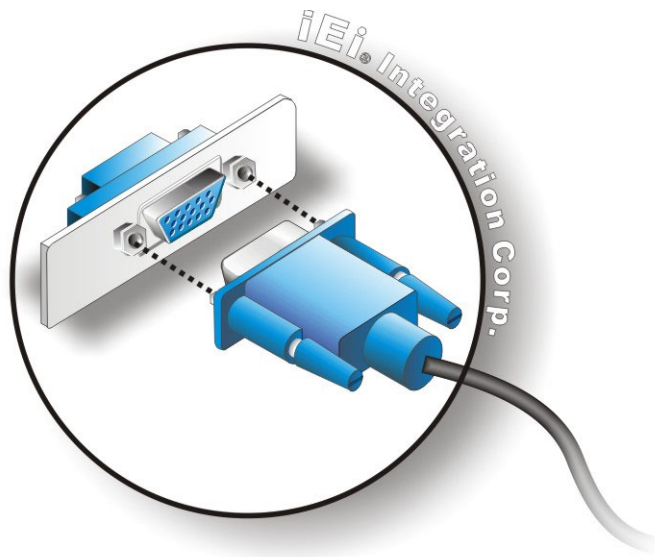

Figure 4-22: VGA Connector
- Step 3:** **Insert the VGA connector.** Once the connectors are properly aligned with the insert the male connector from the VGA screen into the female connector on the NANO-CV-D25501/N26001. See **Figure 4-22**.